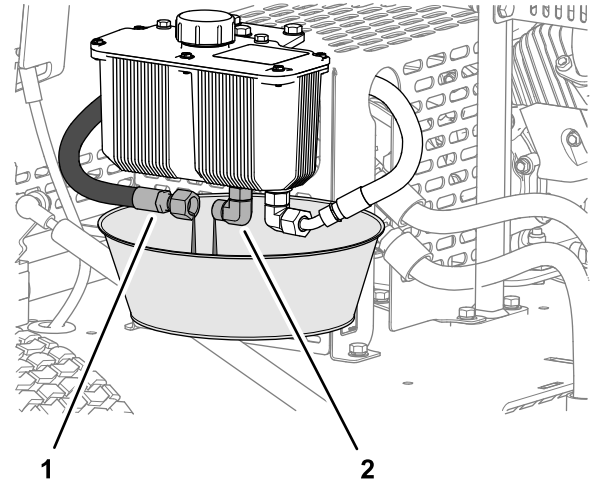

Figure 37
1. Align a drain pan with a 2 L (2 US qt) capacity under the hydraulic reservoir (Figure 37).
2. Remove the hydraulic-supply hose from the fitting of the reservoir, and allow the hydraulic fluid to drain completely (Figure 37).